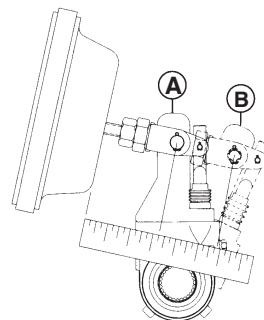

Figure 15 - Measuring Maximum Stroke
7. Using a ruler, measure the distance from the face of the air chamber to the center of the large pin in the clevis (A) (See Figure 15). Make an 85 psi brake application and allow the air chamber to travel its maximum stroke. Measure to the center of the large pin (B). The difference between (A) and (B) is the push rod stroke. Check the following charts for proper maximum stroke after adjustment of the brakes.